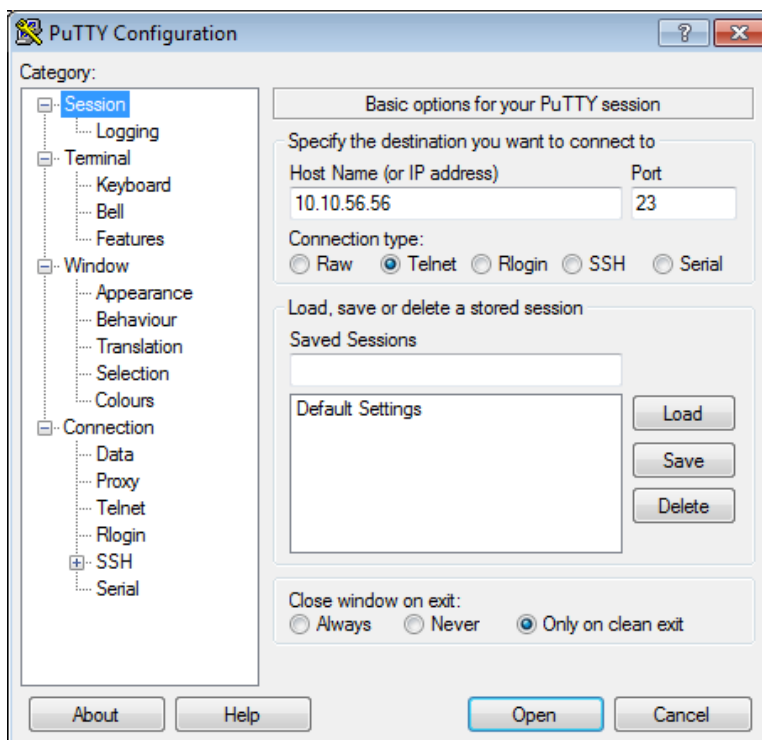

Figure 5-1: Using PuTTY terminal emulation software – selecting and configuring a Telnet connection
- 2- Start PuTTY, select a **Telnet** connection and enter the IP address (**Host Name (or IP address)**) of the CPUM card, as shown in Figure 5-1. (Telnet always uses TCP port number 23 (**Port**).)